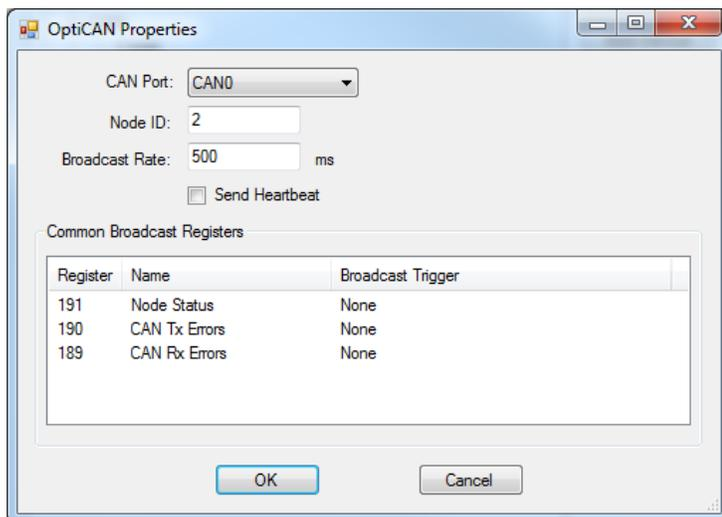

Figure 2-36 - OptiCAN Properties
- Enter the setup information for the OptiCAN network. Refer to Figure 2-36.